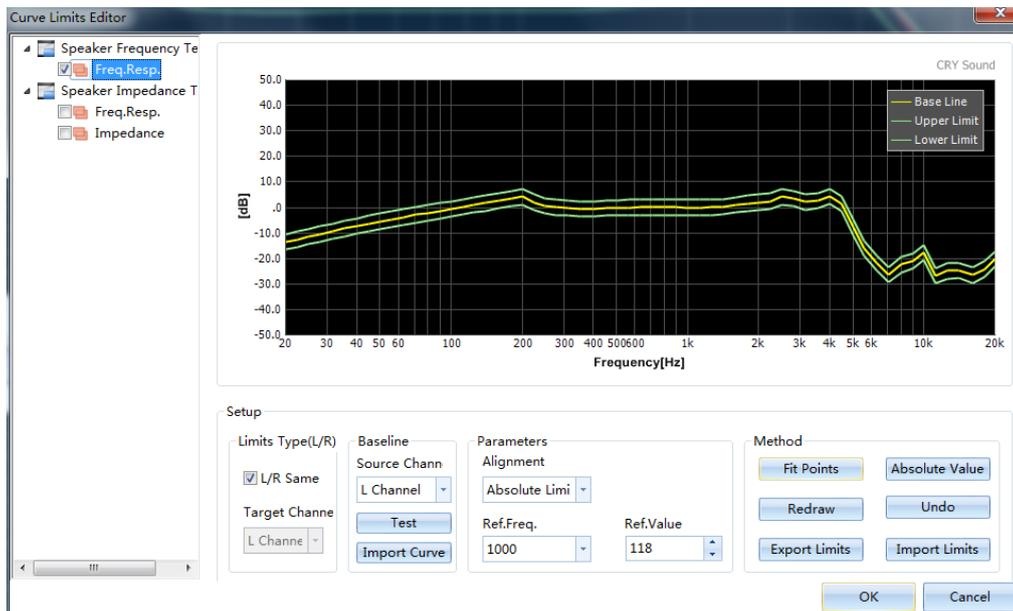

Figure 5.42 Sensitivity Curve Limits Setup
(1) The yellow curve in figure 5.42 is the measured data of software by default. If the curve needs to be measured again, please click "Test", to obtain a benchmark curve.
(2) Set the curve limits options according to Figure 5.42.
(4) The curves limits are drawn. Two green curves limits in Figure 5.42 are curves obtained by translating the measured curve up and down by 3dB.
(5) Click "OK" to exit the curves limits setup interface. When running, as long as the measured curve is in the curves limits, it shall be judged as pass. Otherwise, it fails.